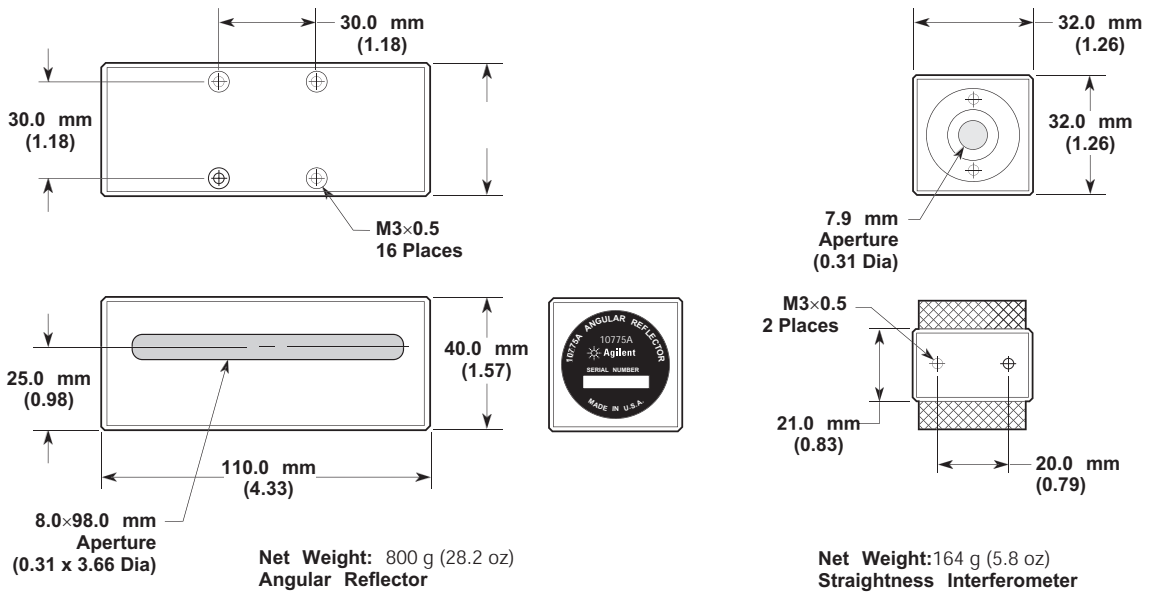

Figure 221 Agilent 10774A Short Range Straightness optics and Agilent 10775A Long Range Straightness optics
**Dimensions:** see Figure 221 on next page